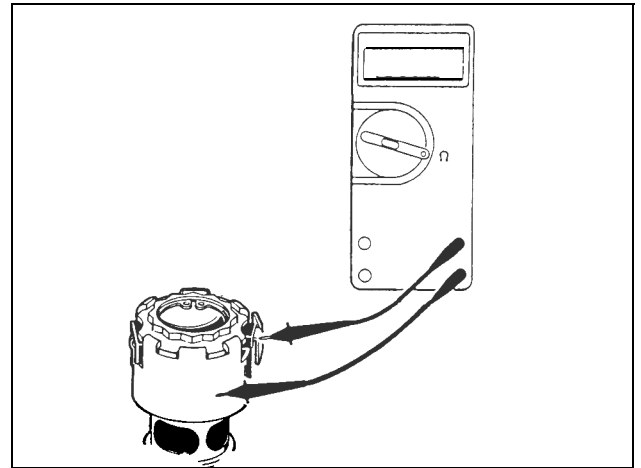

FIG. 1.1.17
**Correction:** With the blue and yellow wires disconnected at the engine brake spacers, connect one probe of the VOM to the solenoid terminal and the other probe to ground at the solenoid body (Fig. 1.1.17).